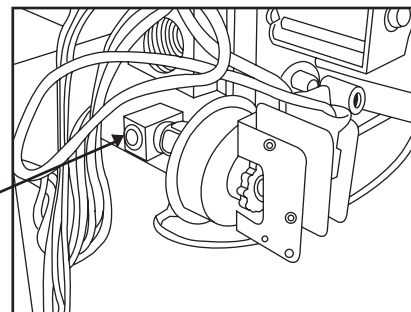

Fig. 42 - LGPS Installed
5. Apply pipe dope sparingly to male end of brass tee. Install propane low gas pressure switch (provided in kit) on nipple. After switch has been finger tightened, use small wrench on base of pressure switch for final tightening. When pressure switch is tight, switch terminals should point as shown in Fig. 42 relative to gas valve and clear control compartment access door.
6. Connect a manometer to the open end of the tee installed in the gas valve. (see Fig. 42).
11. Apply pipe dope sparingly to end of inlet gas pipe plug and install in unused end of 1/8" tee. Use a small back-up wrench on tee when tightening gas inlet pipe plug. (See Fig. 42).